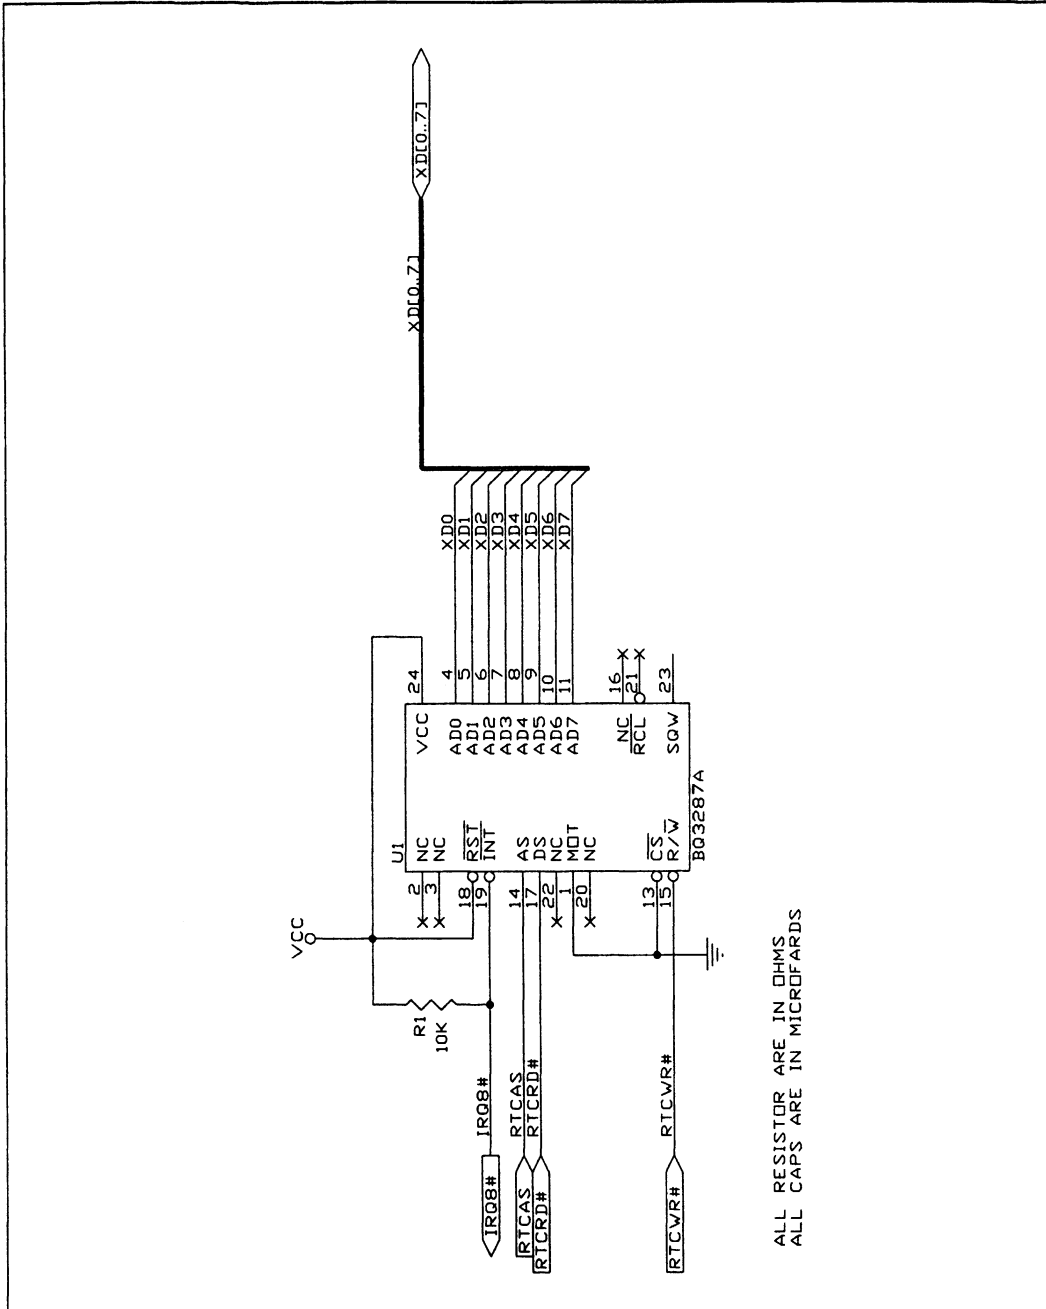

Figure 4. bq3287 ISA (PC/AT) Example
**Table 5. bq3287 ISA (PC/AT) Parts List (Figure 4)**